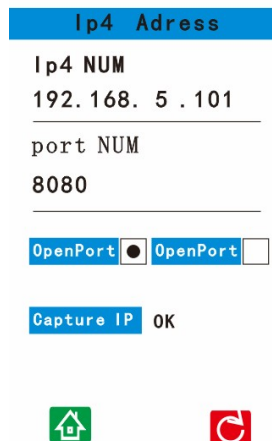

Figure 4
Step 2: Click the function key and "Network Port" to enter the interface in Figure 4 below. Click "Obtain IP Address" to display OK, and the corresponding new IP address appears, indicating that the connection is successful.